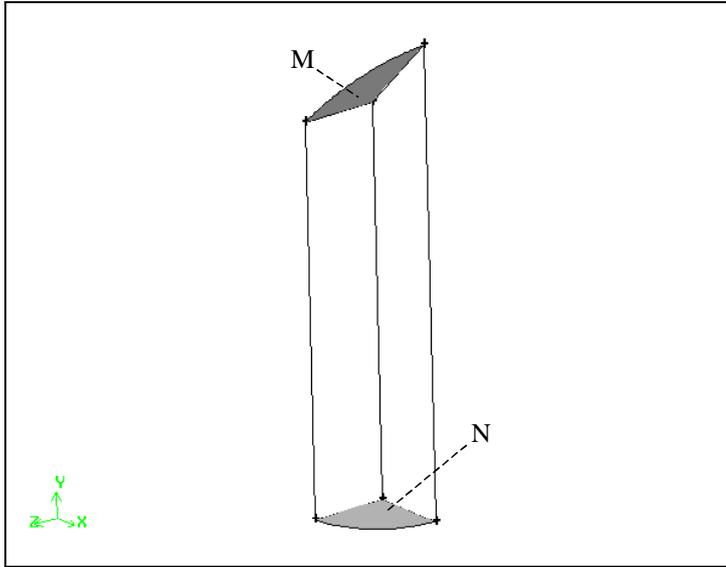

Figure 4-25: Faces to select for Cooper meshing on the volume at the side of the burner geometry
The volume to be selected is shown in Figure 4-25.
- c) Left-click in the **Source** list box (which will turn yellow), and select the faces marked M and N in Figure 4-25 as the **Source** faces.